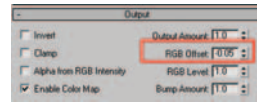

Figure 11.58 The RGB Offset value set to -0.05 .
23. In the Output rollout change the RGB Offset value to -0.05 . Figure 11.58 shows the Output rollout with the RGB Offset value highlighted. This value can be adjusted to control “bloating” of the mesh. Sometimes when using displacement, the modeled geometry can be overinflated by a displacement map.